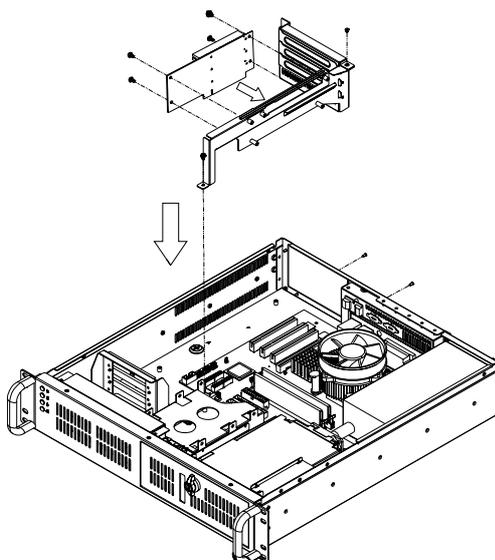

Figure 2.5 Installing a riser card
1. Fasten the riser card to the riser card holder with the four screws. Then insert this unit to the slot on the motherboard. (see Figure 2.5)